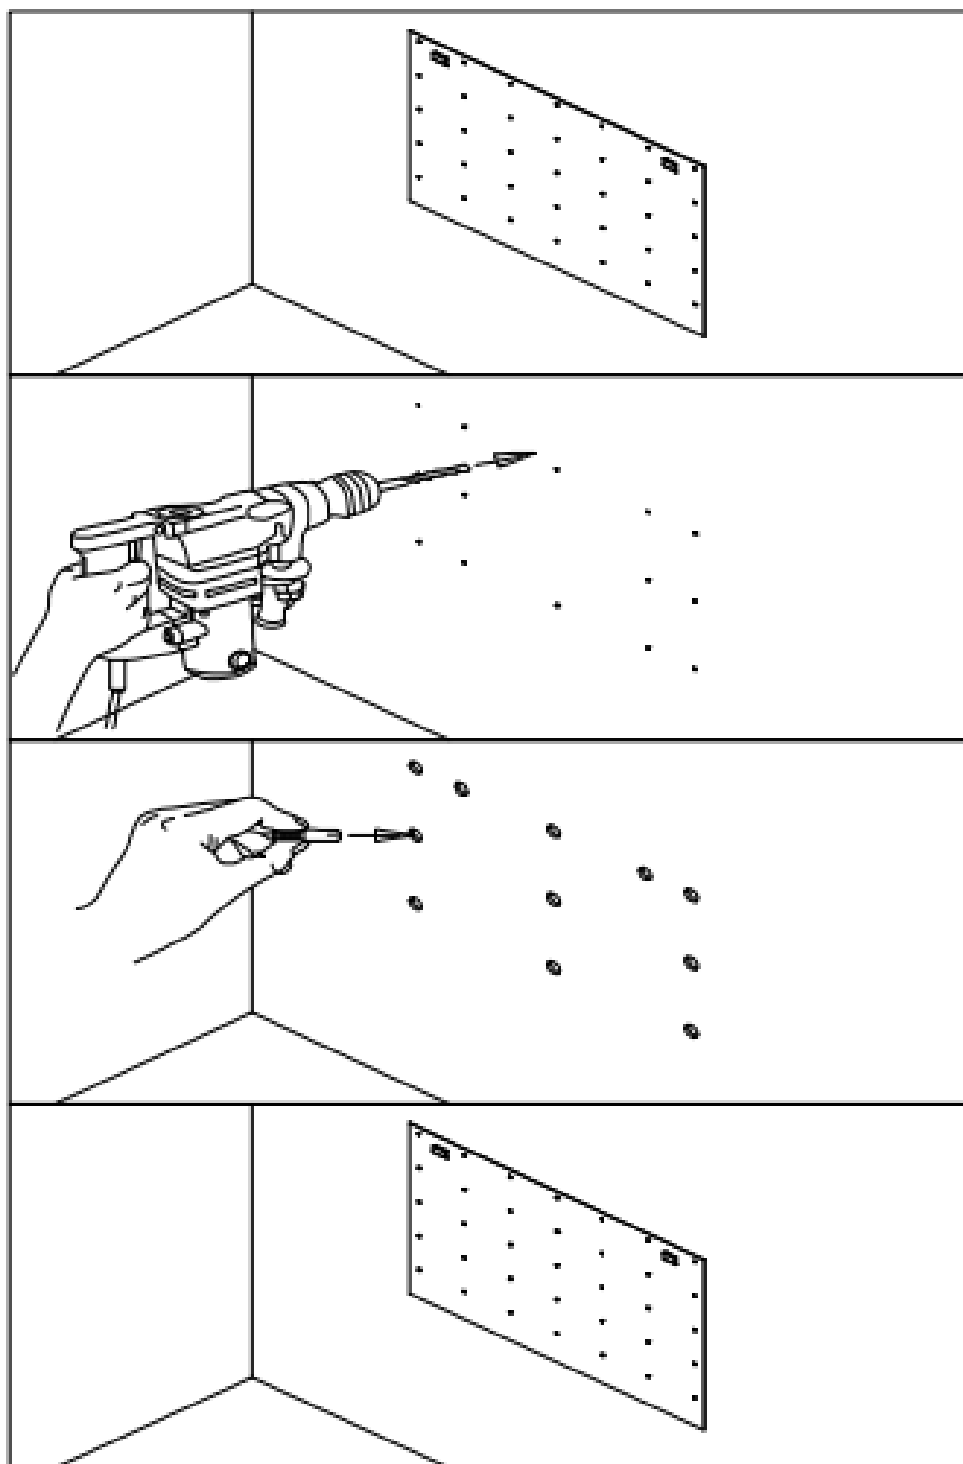

Fig.3
5. Fix the hanger to the wall. Referring to Fig. 3